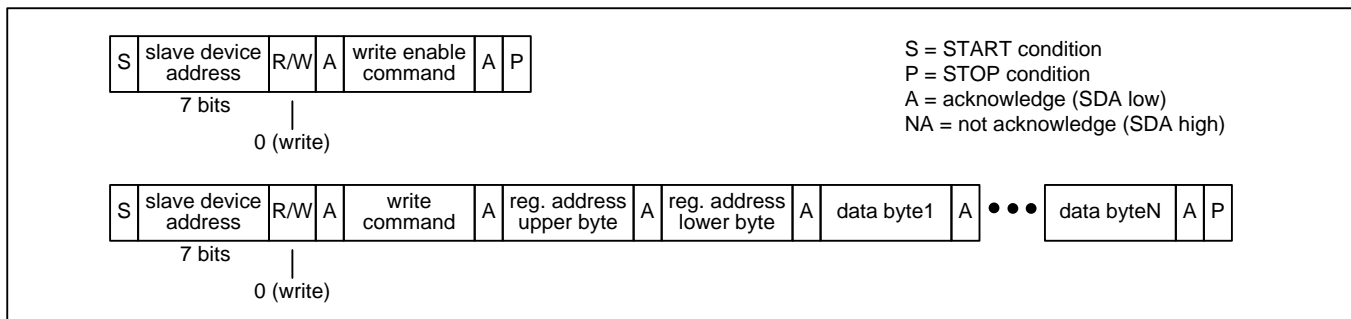

Figure 11 - I²C EEPROM Write Transaction Functional Timing (ZL30261 and ZL30263 Only)
**EEPROM Writes (ZL30261 and ZL30263 Only).** The EEPROM memory is accessible when the **EESEL** bit is 1. The bus master first does an I2C write to transmit the SPI Write Enable command (see Table 3) to the device. The bus master then does an I2C write to transmit data to the device as described in the Register Write Transactions paragraph above. See Figure 11.